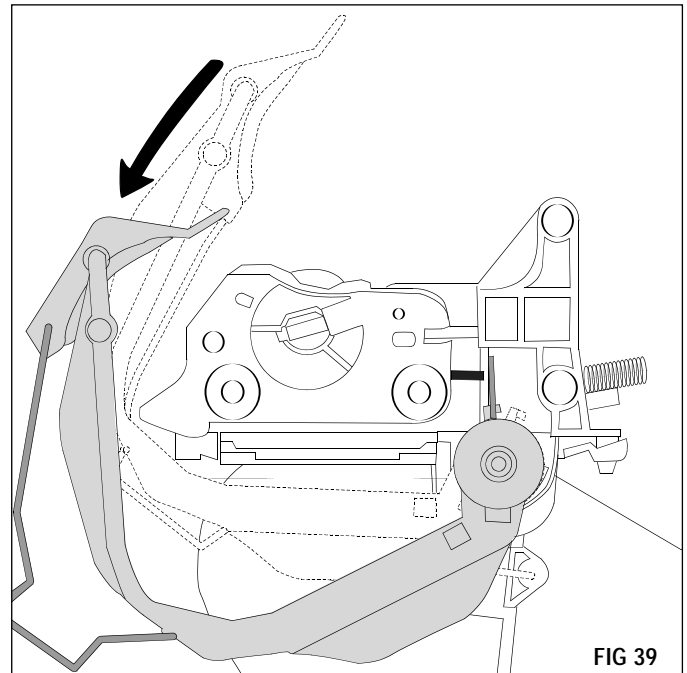

FIG 39
- 16.** Rotate the actuator arm until the spring is positioned to the right of the support bar on the hopper body (FIG 39).